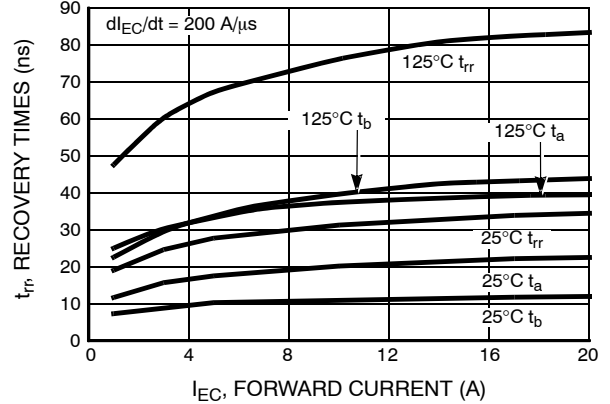

Figure 20. RECOVERY TIMES vs. FORWARD CURRENT
- Values for two Turn-On loss conditions are shown for the convenience of the circuit designer. E_{ON1} is the turn-on loss of the IGBT only. E_{ON2} is the turn-on loss when a typical diode is used in the test circuit and the diode is at the same T_J as the IGBT. The diode type is specified in Figure 20.